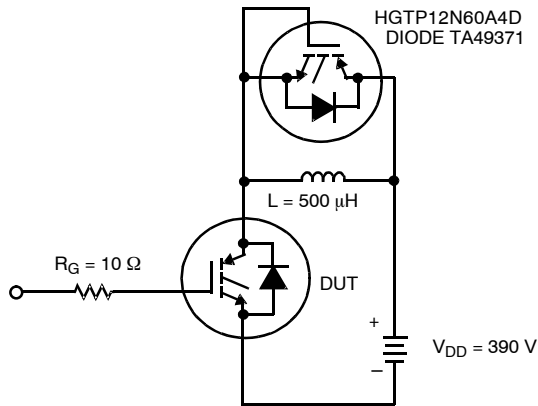

Figure 24. INDUCTIVE SWITCHING TEST CIRCUIT
- Values for two Turn-On loss conditions are shown for the convenience of the circuit designer. E_{ON1} is the turn-on loss of the IGBT only. E_{ON2} is the turn-on loss when a typical diode is used in the test circuit and the diode is at the same T_J as the IGBT. The diode type is specified in Figure 24.